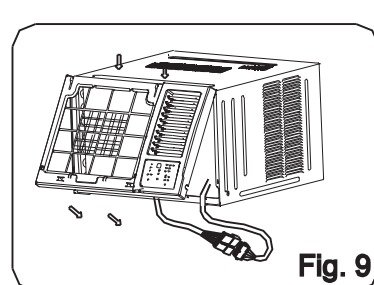

Fig. 9
5. Install the two chassis fixing brackets using the two fixing screws (See Fig.9).
1. Install the frame and connect the coupler plugs, making sure not to interfere with the temperature sensor cable (See Fig.9).